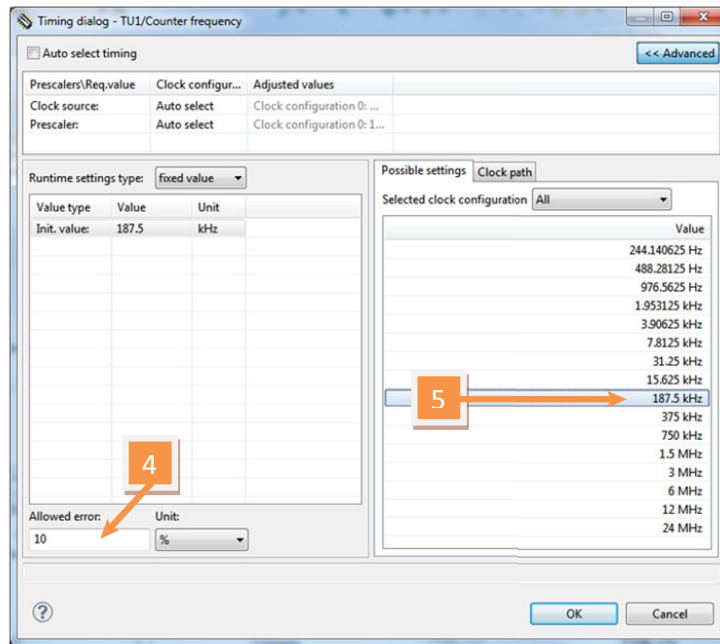

Figure 24. Component TimerUnit_LDD timing dialog—Select Input Frequency
- d) Set the **Allowed Error** value at 10% (see Figure 24).